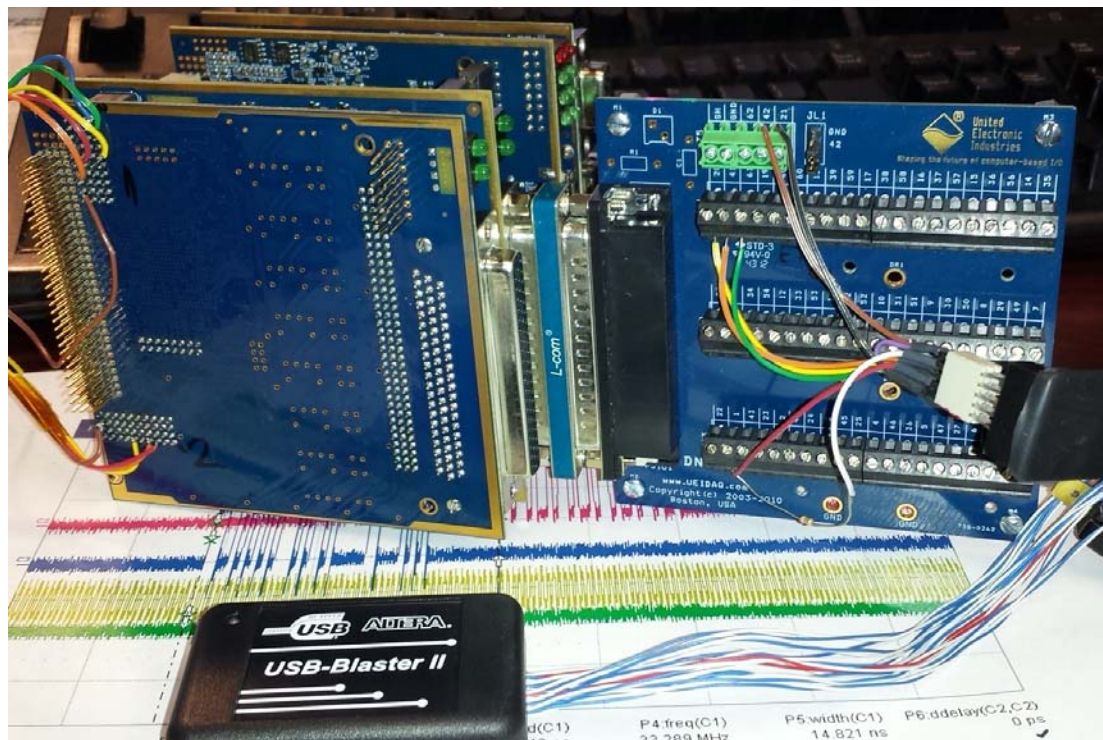

Figure 4-7 JTAG to DB-62 Connections for Quartus II Bit Programming
STEP 2: The following connections are made from DB-62 connector to the terminal board (refer to **Figure 4-7**):
- STEP 7:** Power down the cube or rack chassis, and connect the Altera USB-Blaster II to the terminal (see **Figure 4-7**).